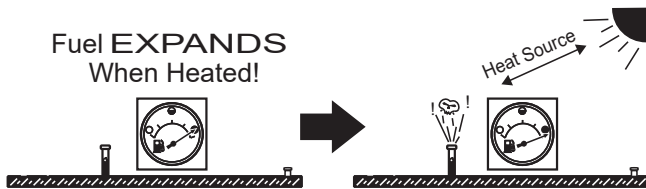

Figure 34. Fuel Expansion
**DO NOT OVERFILL** the fuel system. Leave room for fuel expansion. Fuel expands when heated (Figure 34).